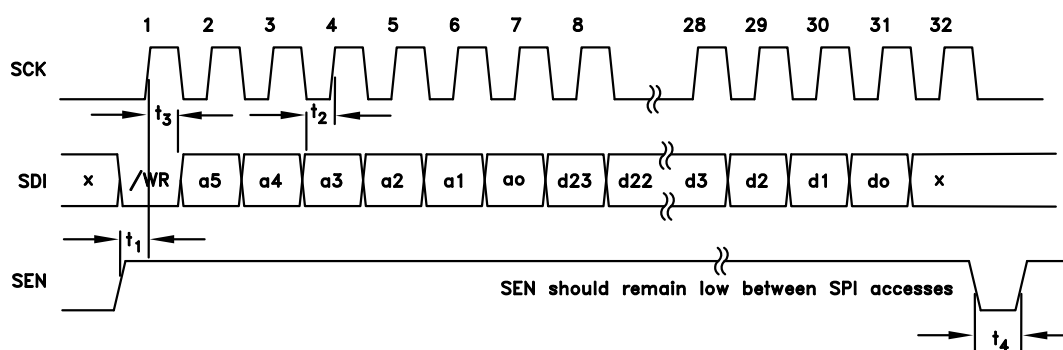
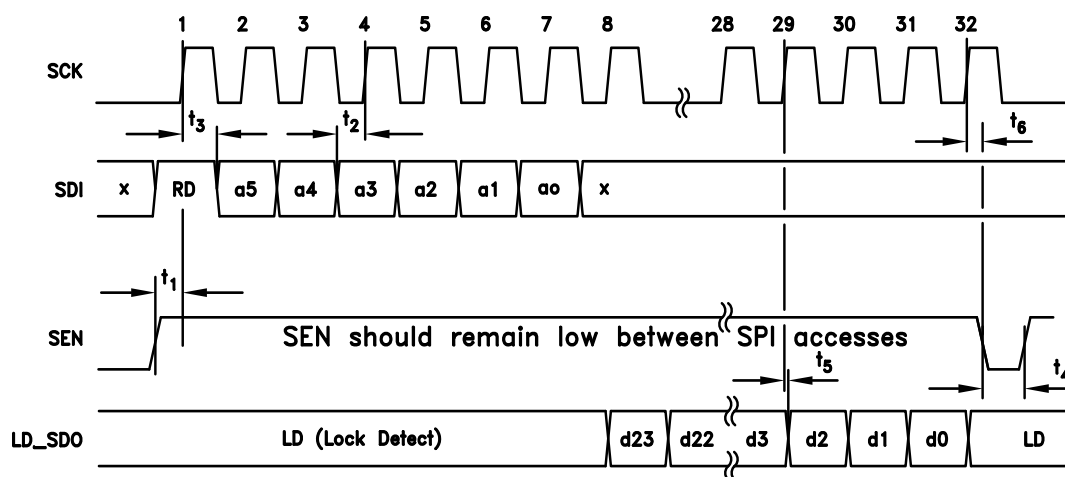

Figure 24. HMC Mode - Serial Port Timing Diagram - WRITE
Figure 25. HMC Mode - Serial Port Timing Diagram - READ
The HMC Mode protocol, shown in figures Figure 24 and Figure 25, is designed for a 4 wire interface with a fixed protocol featuring
A typical HMC Mode WRITE cycle is shown in Figure 24.
A typical HMC Mode READ cycle is shown in Figure 25.
- The Master (host) asserts both SEN (Serial Port Enable) and SDI to indicate a READ cycle, followed by a rising edge SCLK. Note: The Lock Detect (LD) function is usually multiplexed onto the LD\_SDO pin. It is suggested that LD only be considered valid when SEN is low. In fact LD will not toggle until the first active data bit toggles on LD\_SDO, and will be restored immediately after the trailing edge of the LSB of serial data out as shown in Figure 25.
- The slave (PLL with Integrated VCO) reads SDI on the 1st rising edge of SCLK after SEN. SDI high initiates the READ cycle (RD)